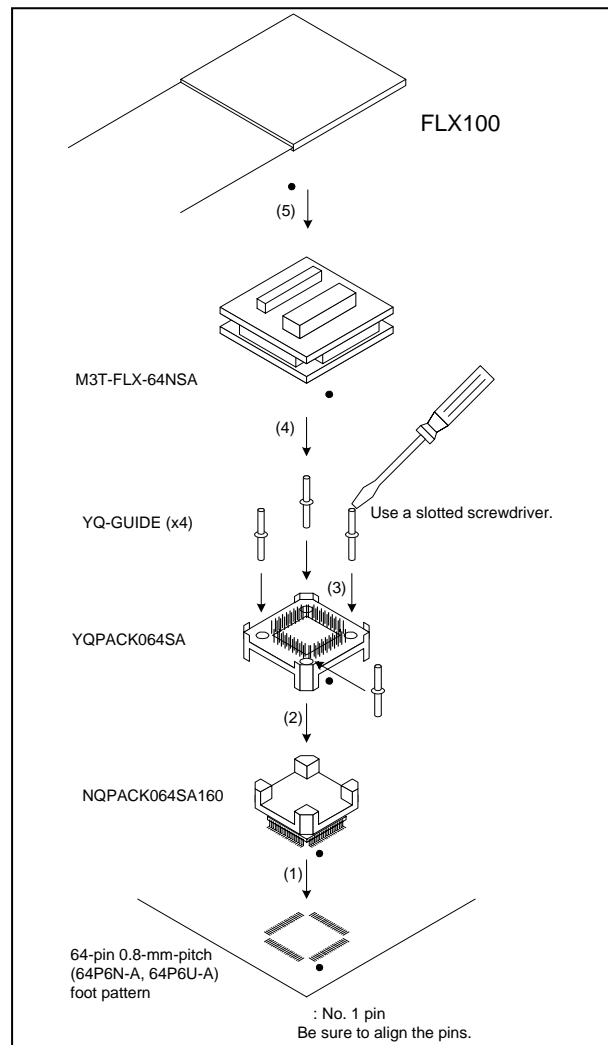

Figure 3 Connection procedure of the M3T-FLX-64NSA
5. Connection Procedure (See Figure 3)